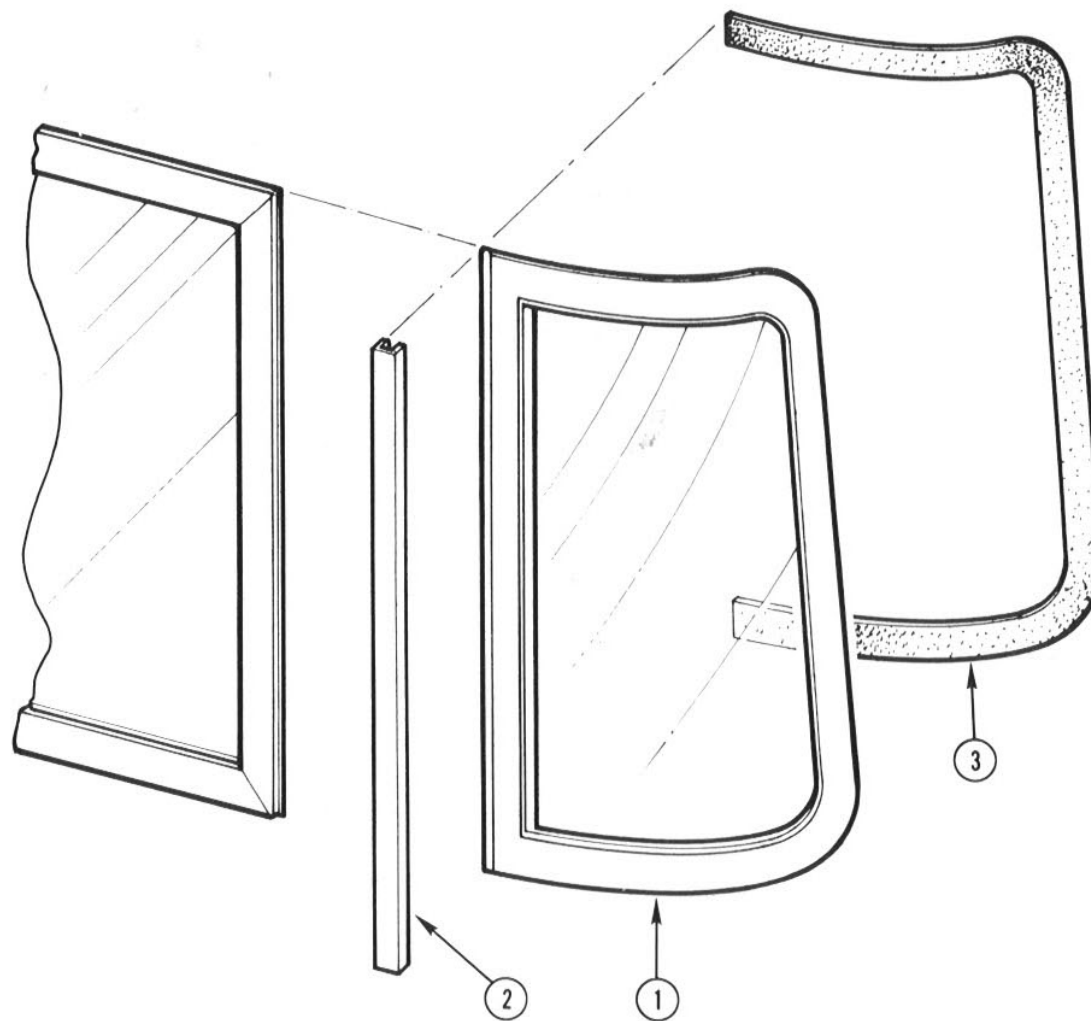

Fig. 9
4. On outside, using No. 30 drill, remove rivets attaching window frame to exterior skin. (Note: On front window, vertical tie bar between front window and wing window must be removed. (See Fig. 9.)
- Note: On front window, install new vertical tie bar mating center window to wing window (see Fig. 9).
1. Remove exterior vertical tie bar between ctr. window and wing window (Fig. 9).